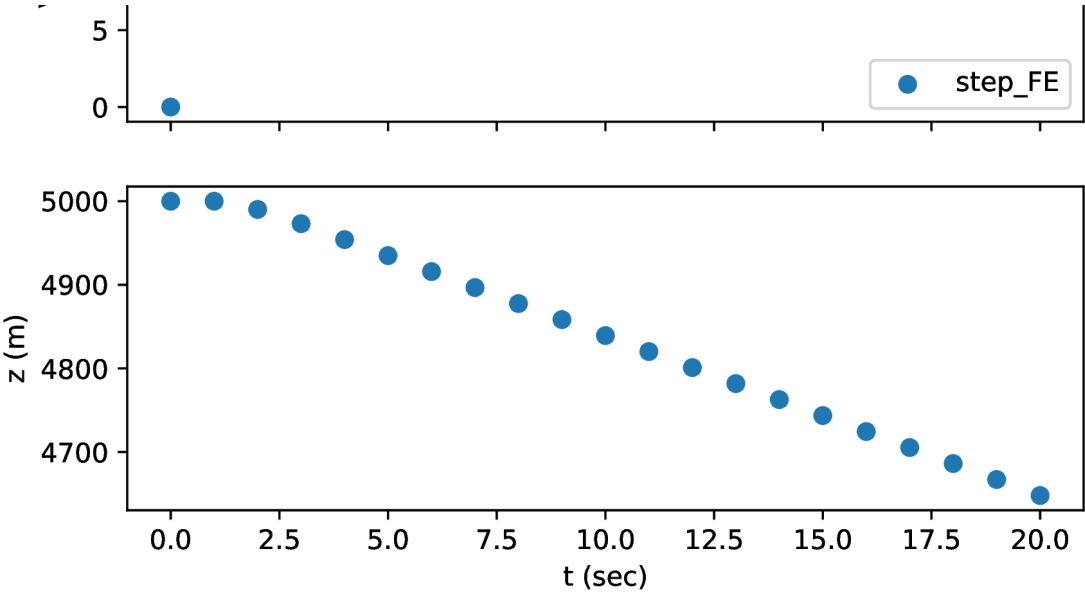

Figure 4.3: Desired output from hail.hail_Vzplot
- Implement `hail_Vzplot(...)` so that it produces the plot shown in Figure 4.3, as well as a similar one using the `step_RK4` method.